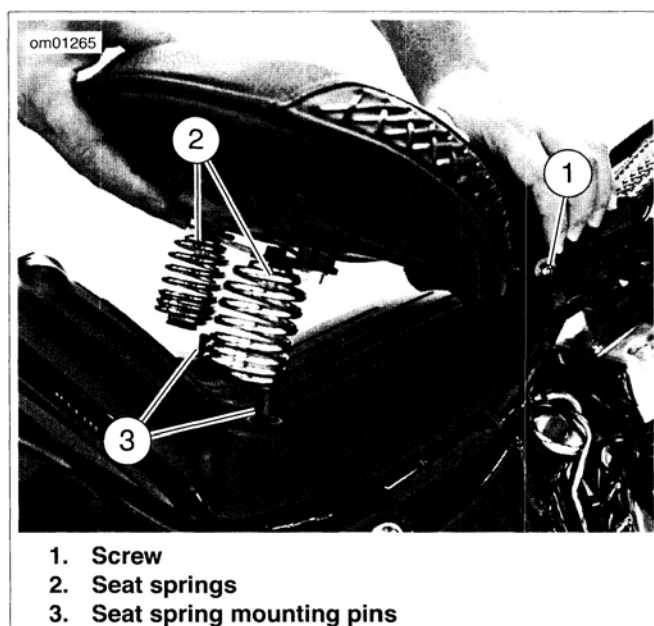

Figure 2-133. Seat: FLSTSB Models
1. See Figure 2-133. Remove screw (1) from the seat hinge at the front of the seat.
2. Raise the rear of the seat to disengage the springs (2) from the seat spring mounting pins (3). Remove seat.
1. See Figure 2-133. Align seat hinge with the mounting bracket on the frame.
2. From the right side of the motorcycle, insert the screw (1) into the seat hinge and tighten to 14-16 ft-lbs (19.0-21.7 Nm).
3. Align bushings on seat springs (2) with the mounting pins (3). Push rear of seat down to engage the seat spring mounting pins.